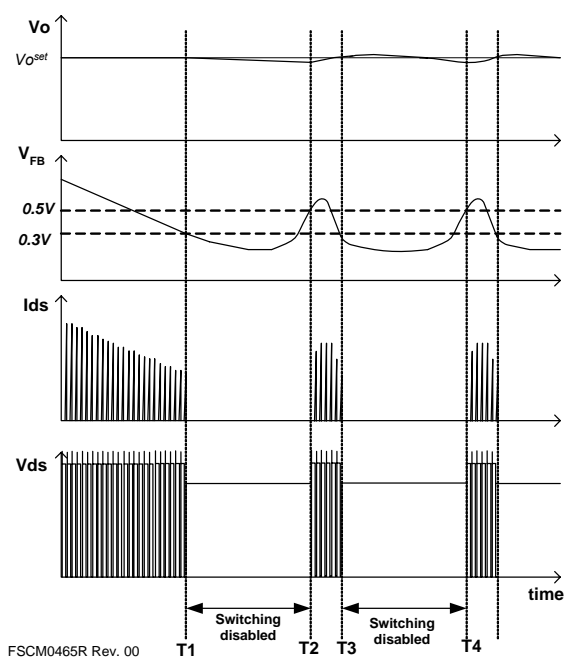

Figure 23. Waveforms of Burst Operation
6. Burst Operation: To minimize power dissipation in standby mode, the FSCM0465R enters into burst-mode operation at light load condition. As the load decreases, the feedback voltage decreases. As shown in Figure 23, the device automatically enters burst mode when the feedback voltage drops below V_{BURL} (300mV). At this point, switching stops and the output voltages start to drop at a rate dependent on standby current load. This causes the feedback voltage to rise. Once it passes V_{BURH} (500mV), switching resumes. The feedback voltage then falls and the process repeats. Burst mode operation alternately enables and disables switching of the power SenseFET, thereby reducing switching loss in standby mode.